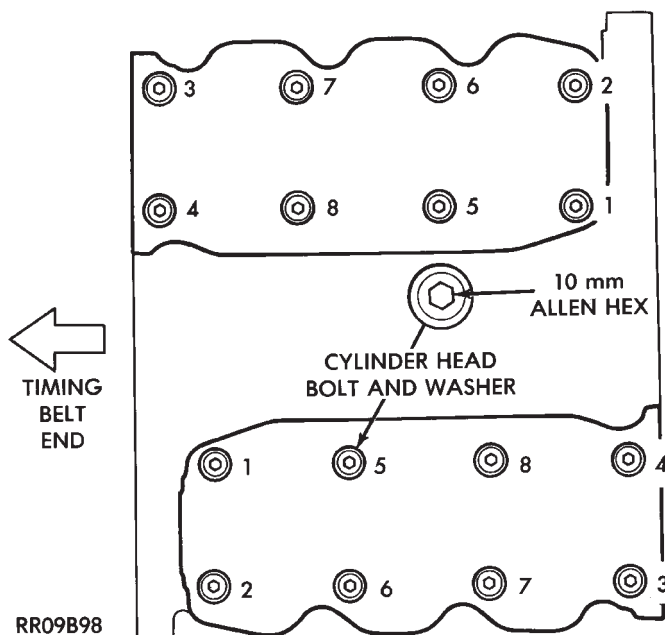

Fig. 14 Cylinder Head Bolt Removal Sequence
- (4) Remove distributor.
- (5) Remove exhaust manifolds and cross over Refer to Intake and Exhaust Manifolds, Group 11.
- (6) Remove cylinder head bolts in sequence shown in (Fig. 14) and remove cylinder head.